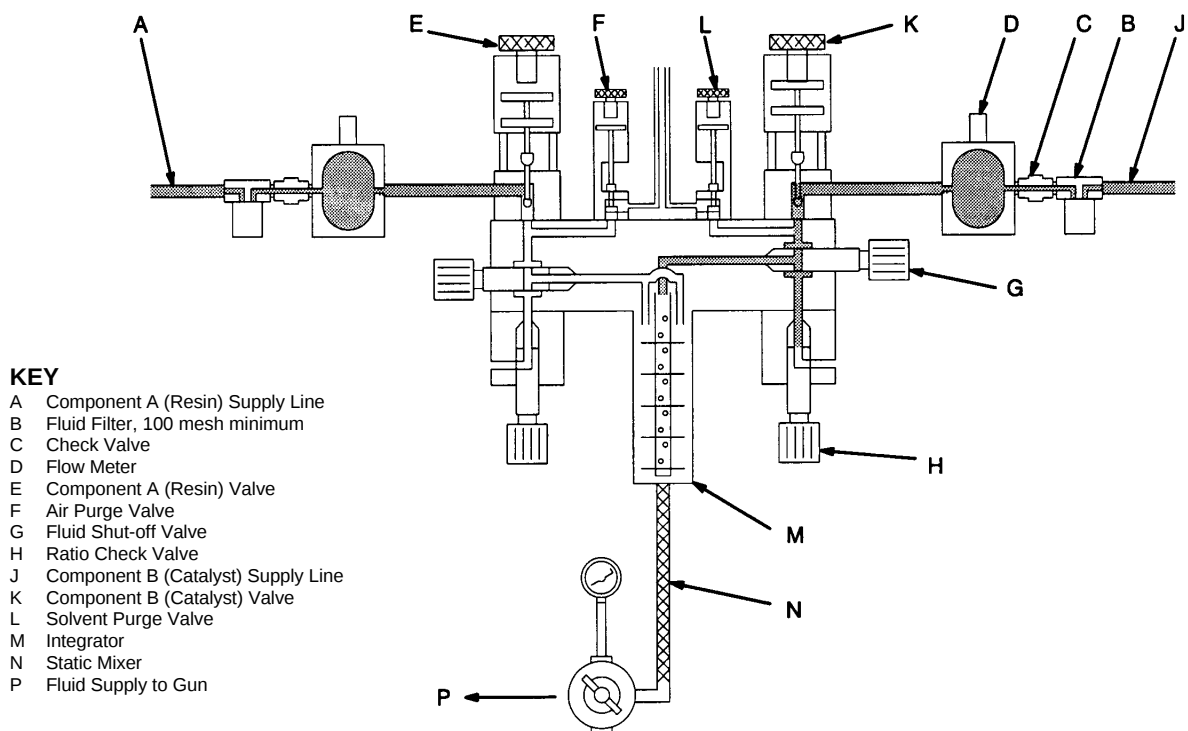

Fig 2
- Next, the component B (catalyst) dispense valve opens. The fluid begins to flow into the integrator chamber and is lined up proportionately with the previously-dispensed component A sample, then the B dispense valve closes. See Fig. 2.